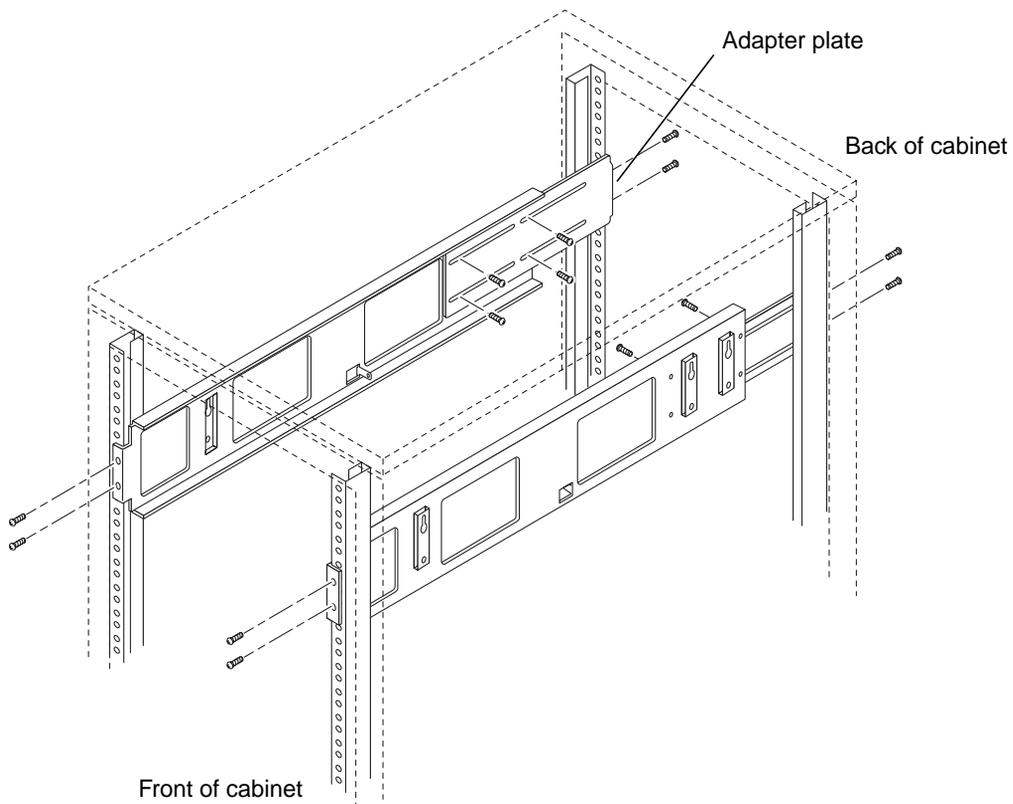
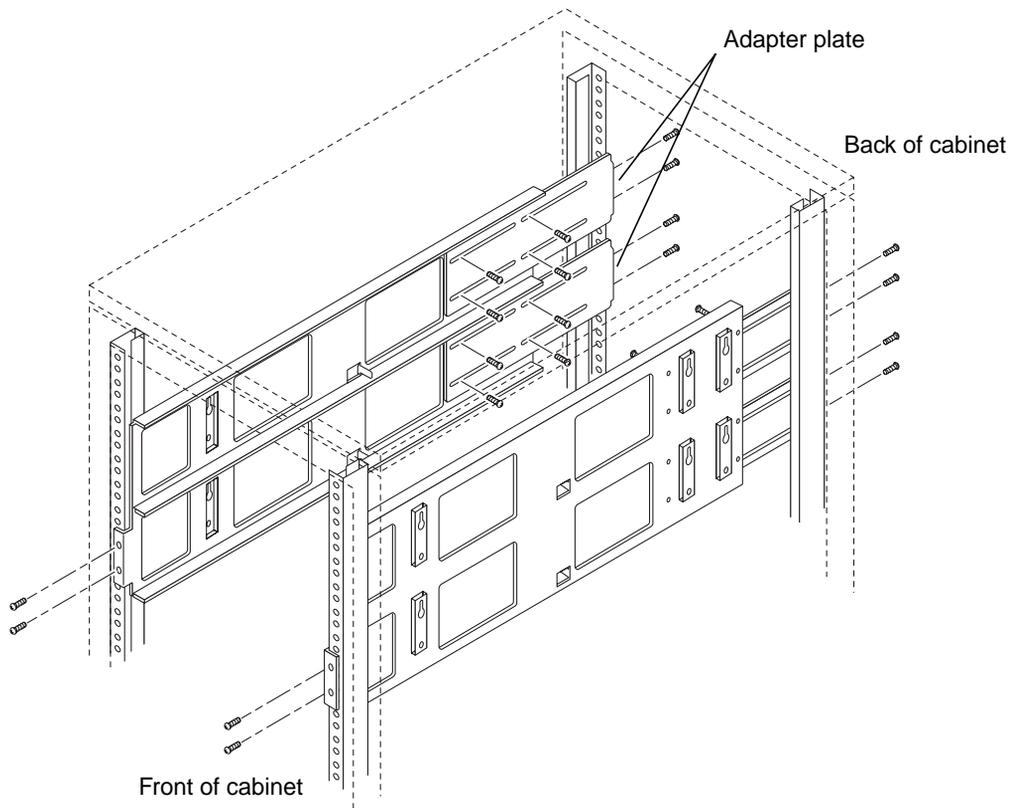

FIGURE 3-1 Attaching a 4-RU Side Rail and Threading the Screws
FIGURE 3-2 Attaching a 7-RU Side Rail and Threading the Screws
See FIGURE 3-1 for a 4-RU side rail installation. See FIGURE 3-2 for a 7-RU side rail installation.
- If you are installing a 4-RU rackmount kit, install four screws at the front and four screws at the back of the cabinet (FIGURE 3-1).
- If you are installing a 7-RU rackmount kit, install four screws at the front and eight screws at the back of the cabinet (FIGURE 3-2).